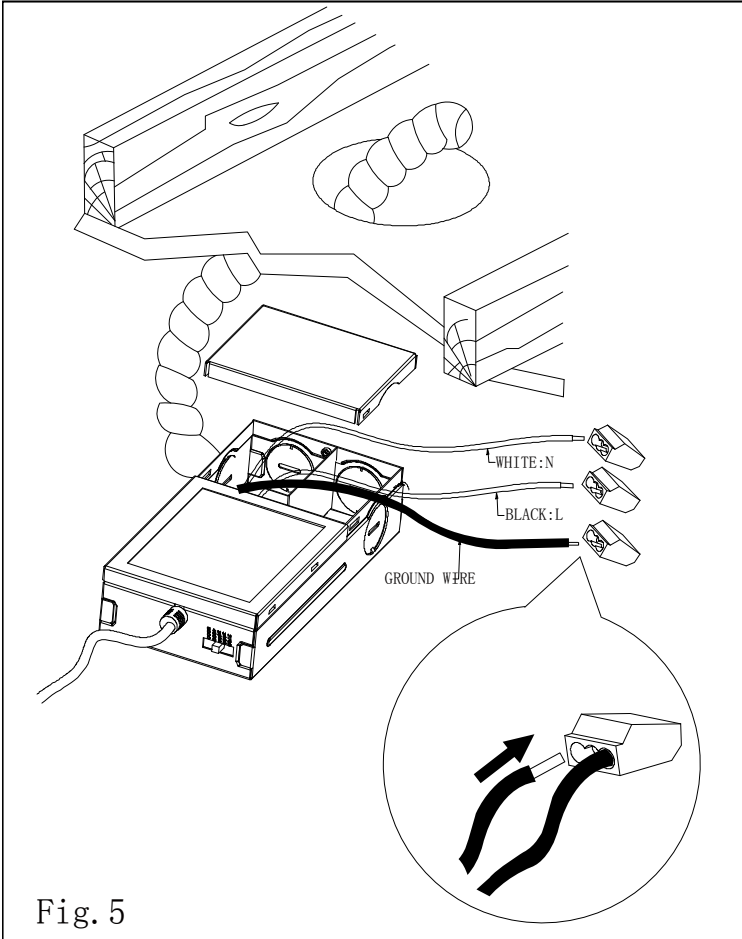

Fig. 5
5. Open connection box by pulling up the cover, remove one of the half-inch knockouts on the side plate (Fig.5)
6. Insert the white supply wire (neutral) into quick wire connector with the preassembled white fixture wire. Insert the black supply wire (hot) into quick wire connector with the preassembled black fixture wire. Insert supply ground wire into quick wire connector with the preassembled ground wire. Make sure all connections are secure, tuck all wires inside the junction box. (Fig.5)